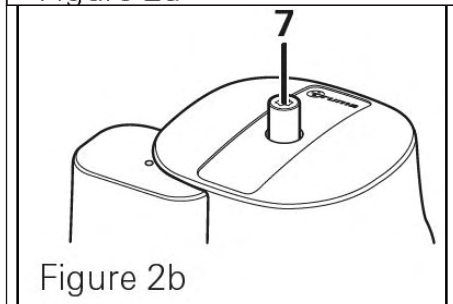

Figure 2b
- Connect the gas cylinder (2) and ensure that the hose connection is in perfect condition.
- Open the cylinder valve (1).
- If the caravan is fitted with a Crash Sensor, press the yellow reset button to activate the regulator" - seen in figure 2b